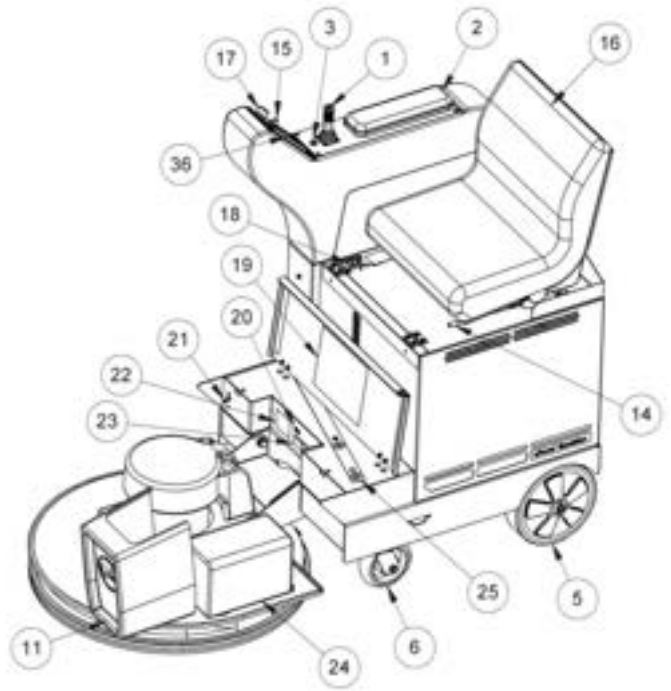

FIGURE 2
- There is one master circuit breaker (Fig. 2 Item 21) located below the foot plate.